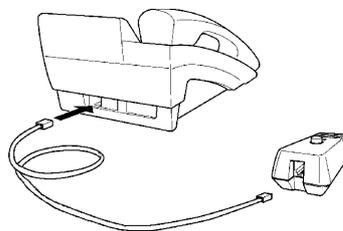

Figure 4-57: Attaching a Microphone to a Multiline Terminal
1. Plug the microphone cord into the jack on the HFU-UA (WH) Unit as shown in *Figure 4-57:: Attaching a Microphone to a Multiline Terminal, Pg 91*.